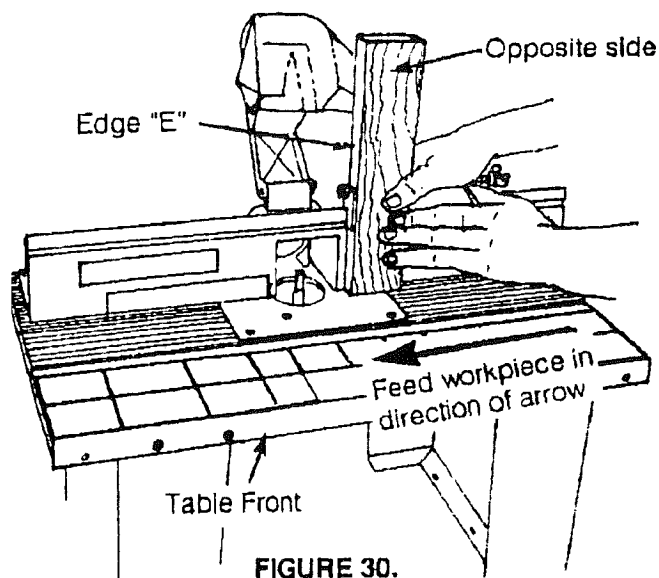

FIGURE 30.
7. Slide push block and therefore workpiece back to the position as shown in Figure 30.
8. Turn router and shop vac "ON". While holding push block and GUIDING WORKPIECE AGAINST FENCE with both hands and FINGERS (Figure 30) AT A SAFE DISTANCE FROM SPINNING BIT, feed the workpiece across the bit to make FULL DEPTH OF CUT IN ONE PASS. (DO NOT STOP FEEDING UNTIL WORKPIECE IS FAR ENOUGH PAST SPINNING BIT).